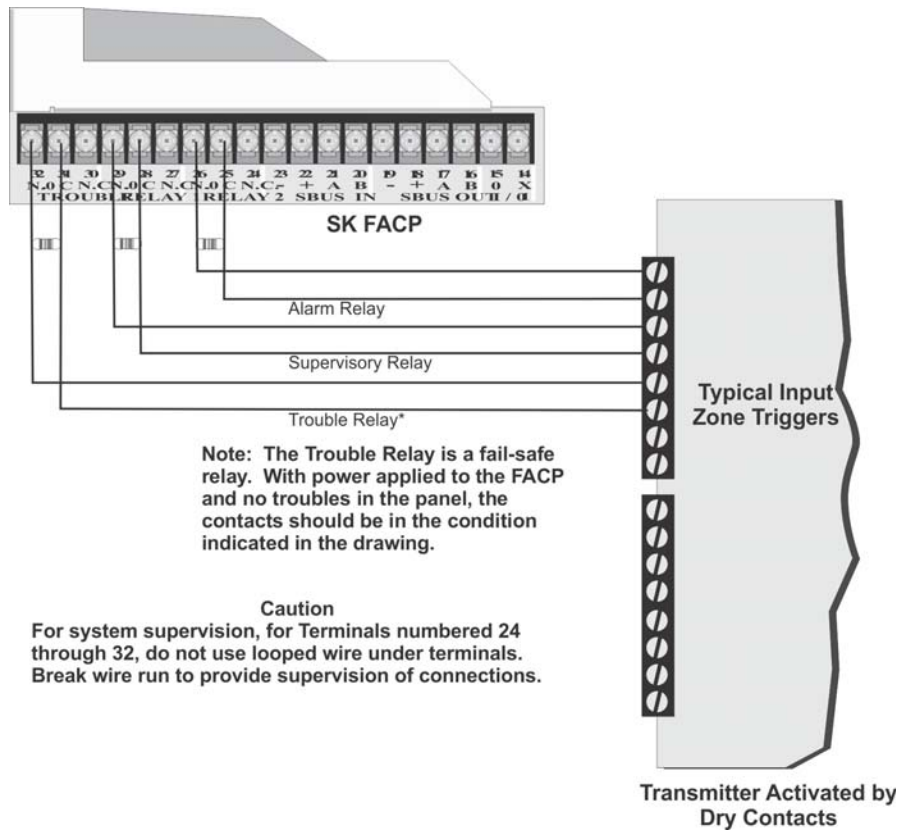

**Figure 4-45 Wiring the MR-201/T**
1. Wire the MR-201/T as shown in Figure 4-45.